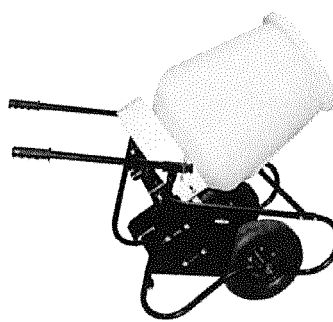

Fig.42: Mixer in working position
6. The mixer is now in its working position. (Fig.42).